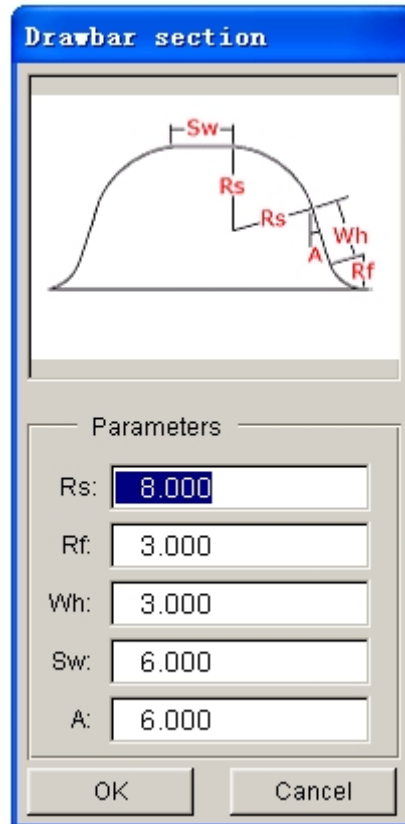

Figure 6.5.10 Parameters for Tear Drop Head
1. DRAW BAR ENDS WITH A SPHERICAL SHAPE (TEAR DROP HEAD). Figure 6.5.10 shows the control parameters in the dialog box.
- Click on the PARAMETERS button to display the corresponding dialog box as illustrated in Figures 6.5.10-6.5.12.